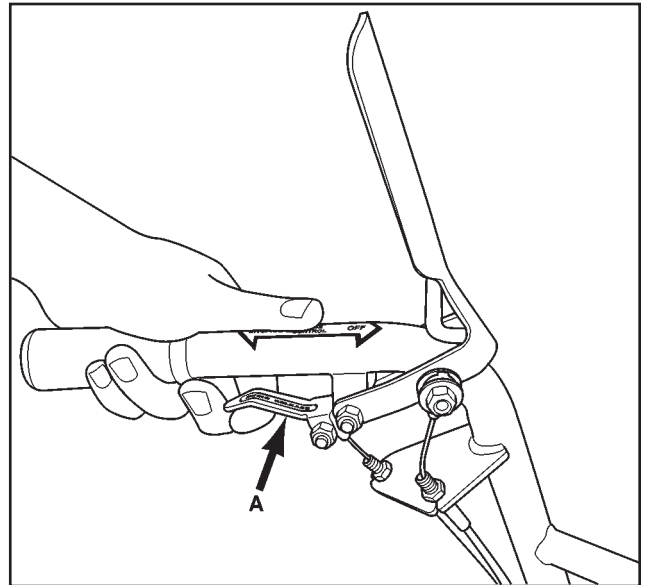

FIGURE 22 Swing Control Lever Engaged
2. Lift up and hold the SWING CONTROL LEVER (See Figure 22).